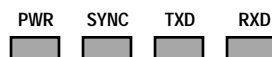

Figure 21. LED Status Indicators
2. Observe the transceiver LED status panel (Figure 21) for the proper indications. Table 4 provides a complete explanation of the LED functions.